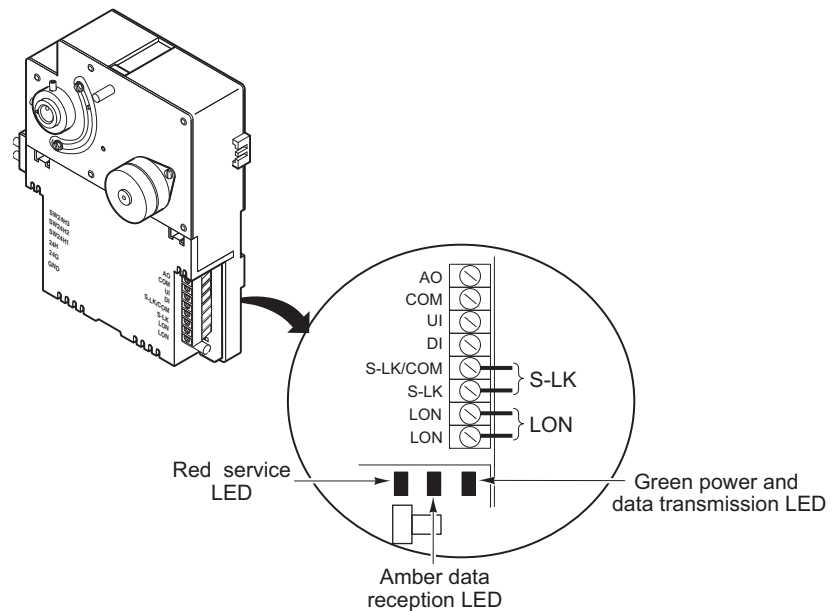

Figure-13 Location of MNL-V1RVx and MNL-V2RVx LEDs.
3. Observe green Data Transmission LED (Figure-13) and do the following:
4. Observe red Service LED (Figure-13) and do the following:
5. If connected to a MicroNet LonWorks network (LON), verify Reception and Transmission LEDs (Figure-13) indicate normal operation. See Table-3.